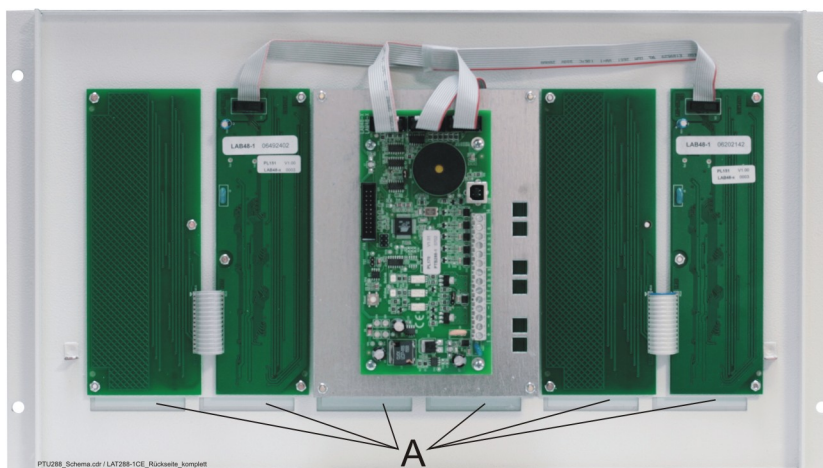

Fig. 9: Rear view of the LAT288-1CE with three installed LAB48-x's and with installed PTU288-1
- ◆ Afterwards, screw the PTU mounting plate onto the hexagon bolts, with which the central printed circuit board pair is fastened (see Fig. 9 below), and screw the PTU288-1 componentry onto it.